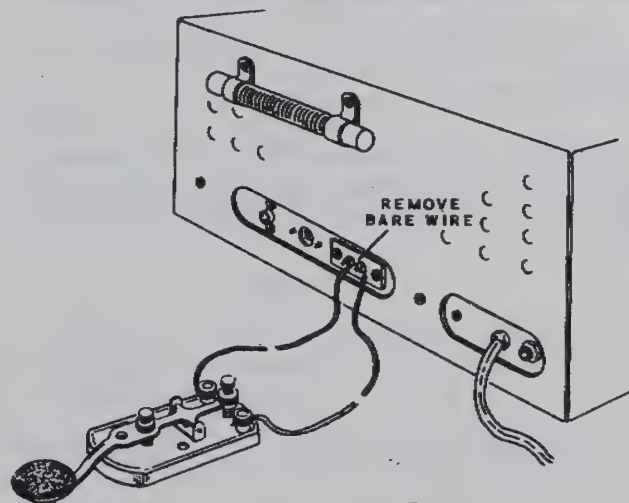

Figure 5
- ( ) Connect a CW key to the terminal strip as shown in Figure 5. Press the key down and tune in a weak AM station.